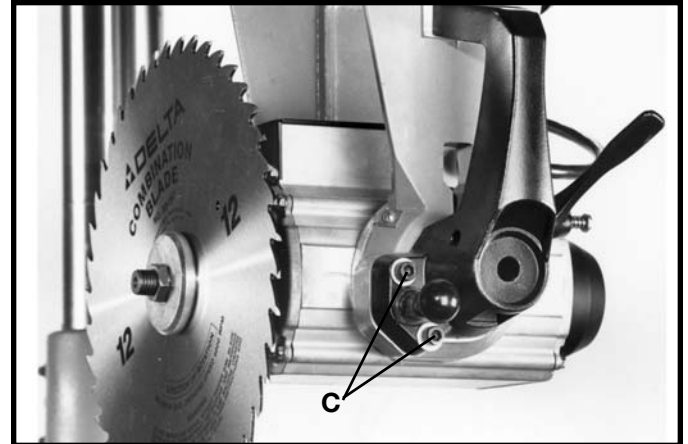
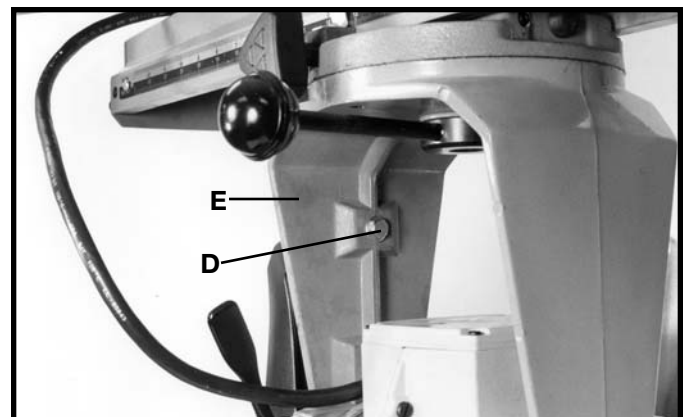

Fig. 43
Fig. 44
4. If the blade is not square with the table an adjustment is necessary. Loosen two bolts (C) Fig. 43.
5. Loosen screw (D) Fig. 44, located inside of yoke (E).
8. Tighten bolt (D) Fig. 44, and two bolts (C) Fig. 43.